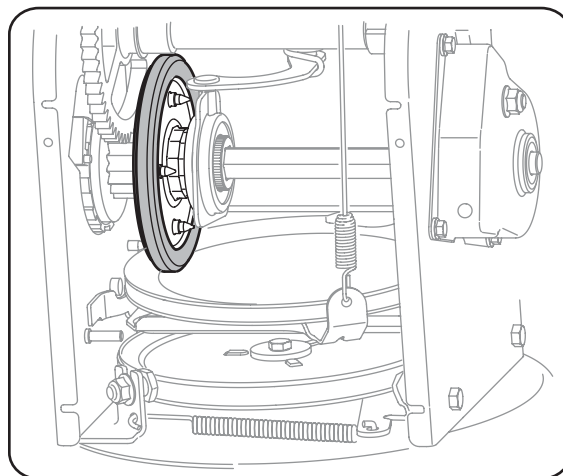

Figure 6-11
3. Examine the friction wheel for signs of wear or cracking. See Figure 6-11.